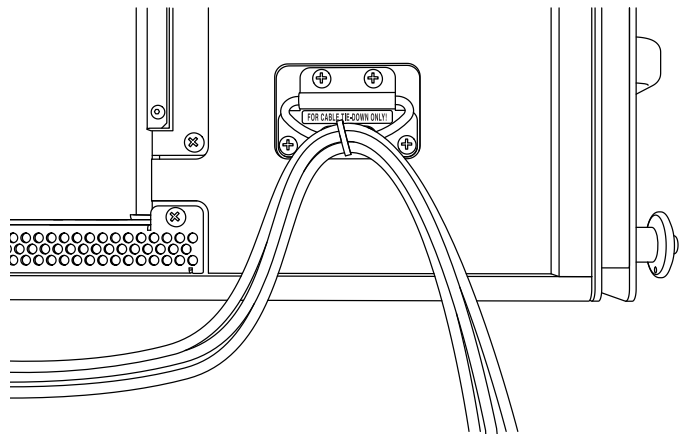

Figure 16. Cables Tied Off to Cable Ring
- Use the cable rings on the rear of the PANTHER cabinet to reduce strain on the chassis and cable connectors (see Figure 16). Do not use the cable rings for any other purpose.
Two cable rings are provided on the rear of the PANTHER cabinet (Figure 16). Power and audio cables should be tied off to these rings to reduce strain and prevent damage to them and the chassis mounted connectors.